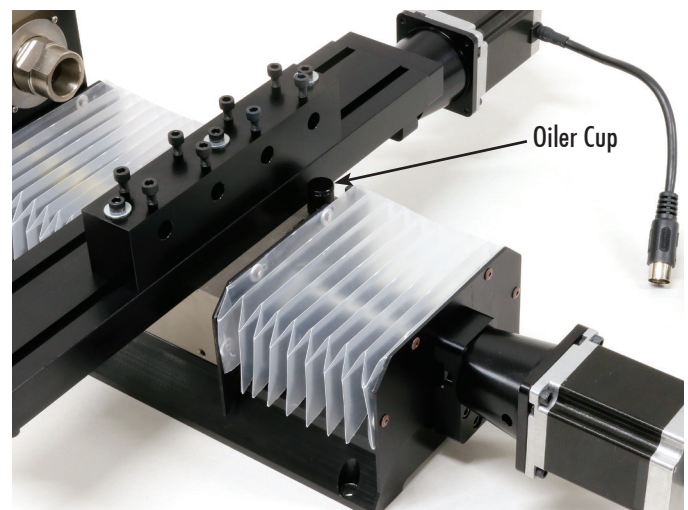
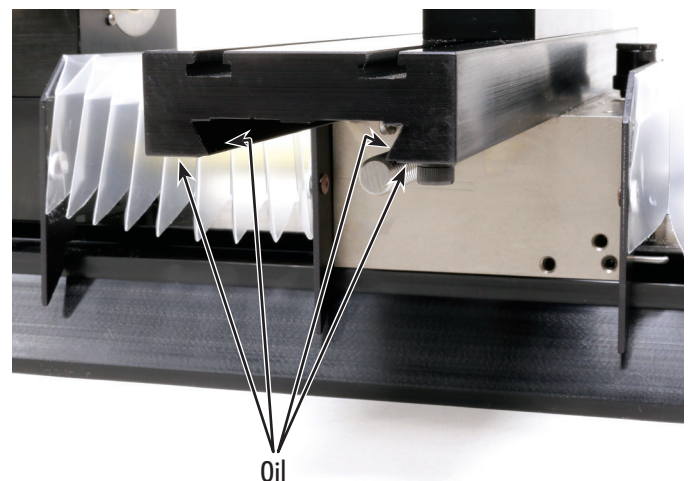

FIGURE 1—Z-axis oiler cup
FIGURE 2—The arrows indicate the surfaces underneath the table where oil should be applied.
1. Lubricate your machine with a light oil such as 3-in-1 oil. For the Z-axis, fill the oiler cup once a day (see Figure 1). This is a gravity feed system and the oil will flow down the sides of the base after a while. Mounting your machine inside a shallow basin (such as a cookie sheet) is recommended. For the X-axis, put a few drops of oil on your finger and wipe it onto the exposed dovetail surfaces underneath the table (see Figure 2).